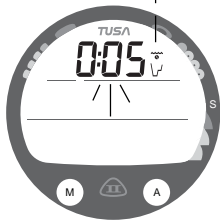

Fig. 23 - SET DTR AL
**Set DTR Alarm**, information includes (Fig. 23):